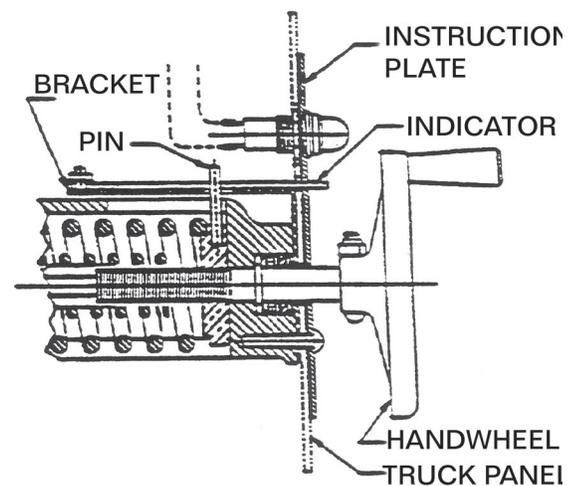

FIGURE 2
3. The PMD Control Valve assembly can now be mounted to the truck panel as shown in *Figure 2*. The PMD Control Valve Assembly is installed on the inside of the truck panel while the instruction plate is on the outside. Attach the instruction plate to the PMD Control Valve Assembly using the (4) 3/4-20 x 5/8 Lg. Phillips Head Screws (018-1205-44-0). Tighten securely.